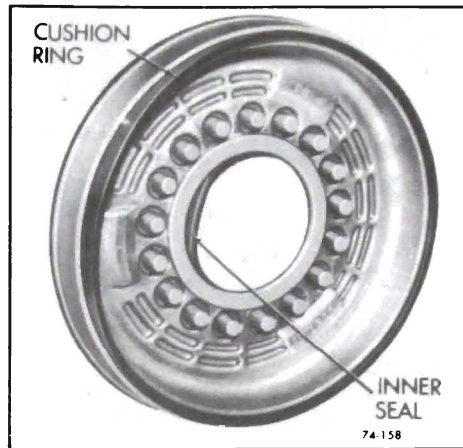

Figure 74-158
8. Examine reverse clutch piston inner seal and cushion ring. If nicked, torn, or worn, remove. See Figure 74-158.